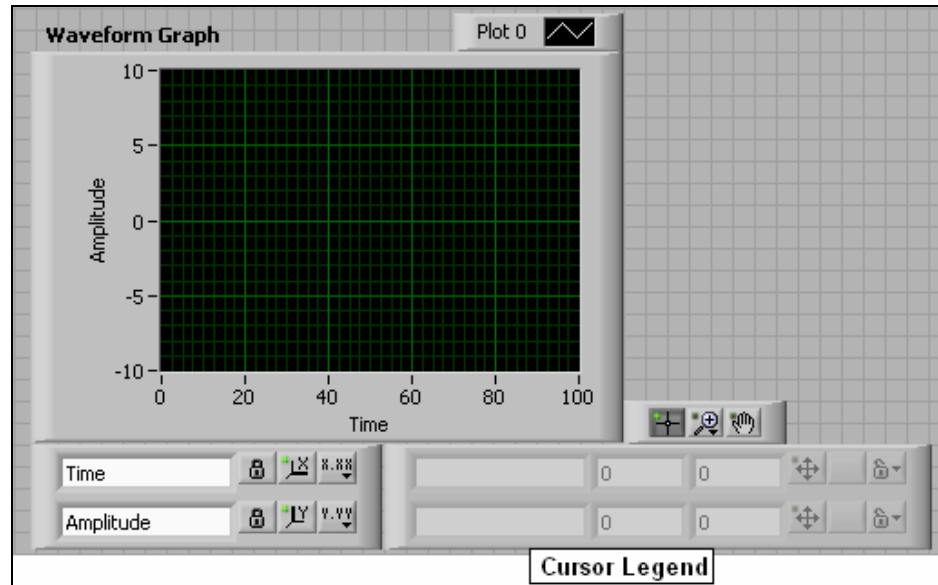

Figure 6.8: Waveform Graph Plotting Controls
- b. All of the controls labeled in **Figure 6.8** can be displayed for a Waveform Graph, if not already, by **Right-Clicking on the Graph** → **Visible** → **Select Component**